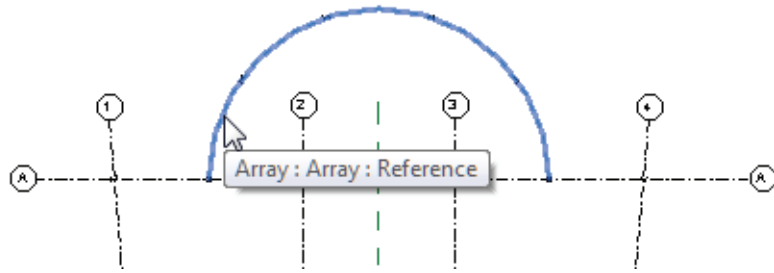

Figure 5–21
12. Move your cursor over the area of the array as shown in Figure 5–21. When an arc displays, select it.